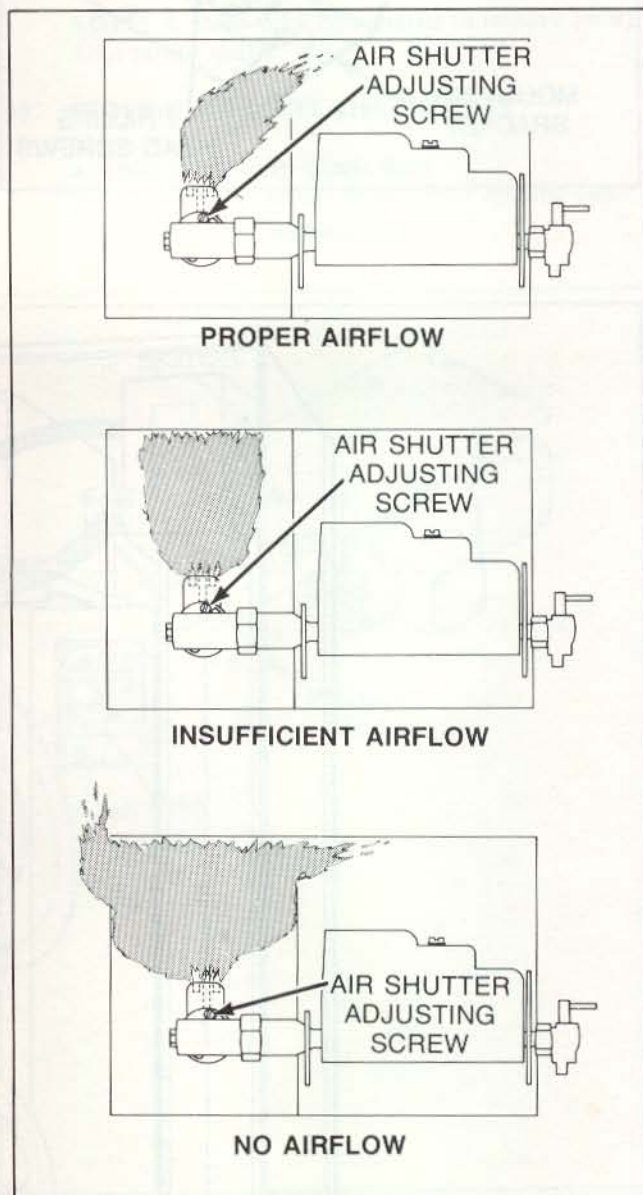

Figure 26
- Start the tumbler and check the flame pattern. Correct air and gas mixture is indicated if the flame pattern is primarily blue, with small yellow tips, and bends to the right of the heater section. (See Figure 26). Too little air is indicated if the flame is yellow, lazy and smokey.
- To adjust the air shutter, loosen air shutter adjusting screw, Figure 26.
- If the shutter is correctly adjusted, but the flame pattern is straight up (see Figure 26), insufficient air is flowing through the tumbler and airflow switch is improperly set. A flame pattern that flares to the right and left (see Figure 26) indicates no air is flowing through the tumbler.